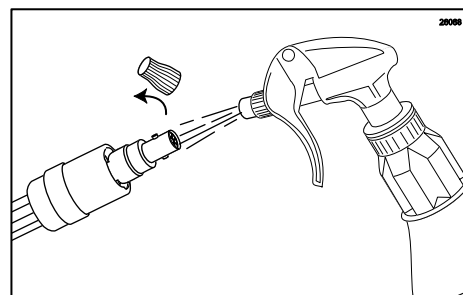

Figure 127
4. Remove the cap and spray the cap and Syrup Line Manifold opening with approved sanitizer solution. Allow them to sanitize for at least 1 minute. (See Figure 127.)